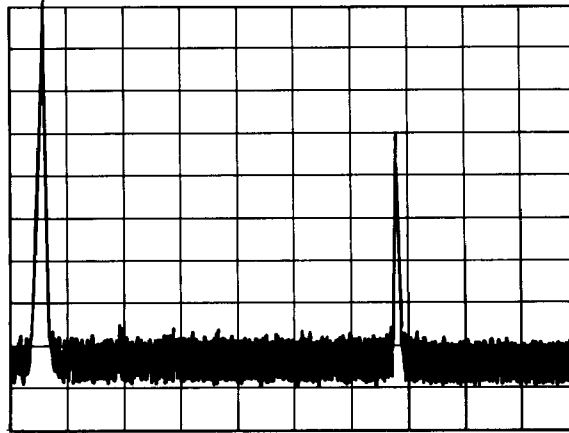

Figure 5-57. Saggging Displayed on Spectrum Analyzer
50. Using the STEP UP key on both the 8340A Under Test and the LO 8340A, step through Band 2 observing the spectrum analyzer display at each step. There may be responses due to mixing products. These will appear as low level signals. A squegging response will appear as a higher amplitude signal as shown in Figure 5-57. If squegging occurs, adjust A24R5 (X2C) slightly CCW to eliminate the squegging. Note, if the control is adjusted and there is no effect on the response, the response is probably a mixing product.